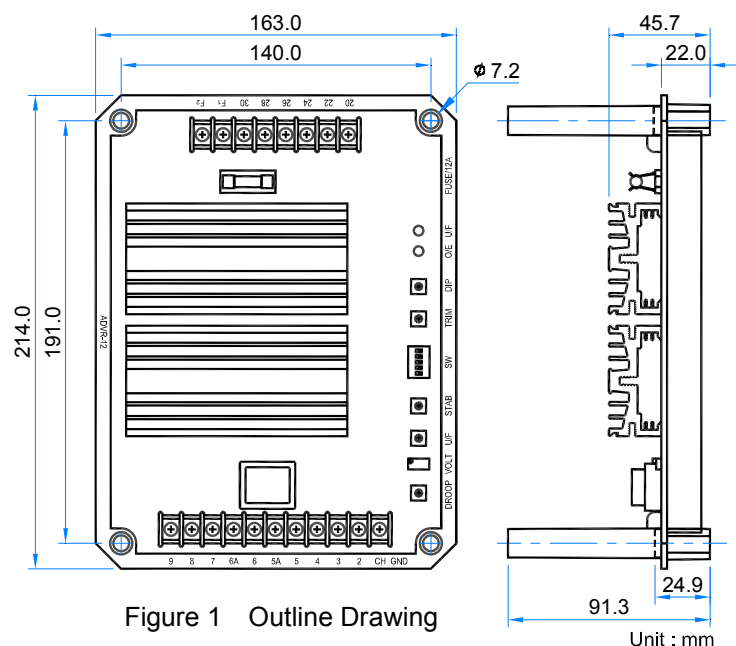

Figure 1 Outline Drawing
1. AVR can be mounted directly on the engine, genset, switchgear, control panel, or any position that will not affect operation. For dimension reference please see Figure 1.